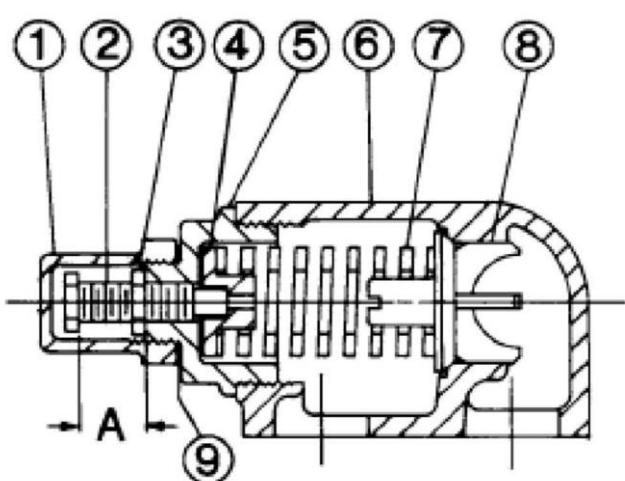
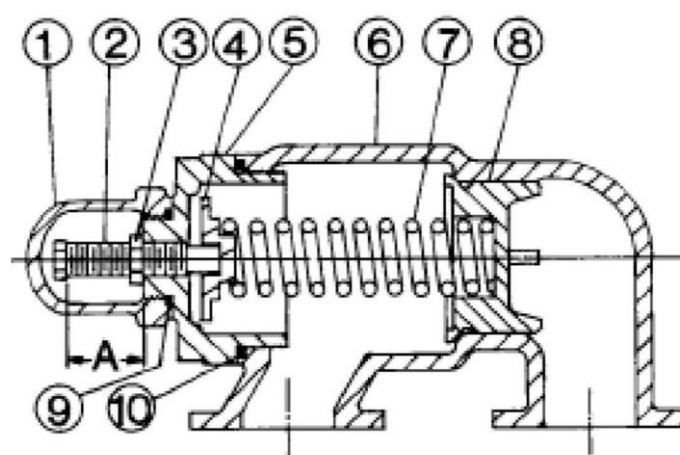

Figure 9. G-GG, G-HJ, G-HL
Figure 10. G-AS, G-AK, G-AL
2. Measure and record length of extension of adjusting screw. Refer to "A" on Figure 9 and Figure 10.
Reverse procedures outlined under Disassembly. If valve is removed for repairs be sure to replace in same position. Relief valve adjusting screw cap must always point towards suction side of pump. Verify the length of extension of adjusting screw. Refer to "A" on Figure 9 and Figure 10. If pump rotation is reversed, remove relief valve and turn end for end.